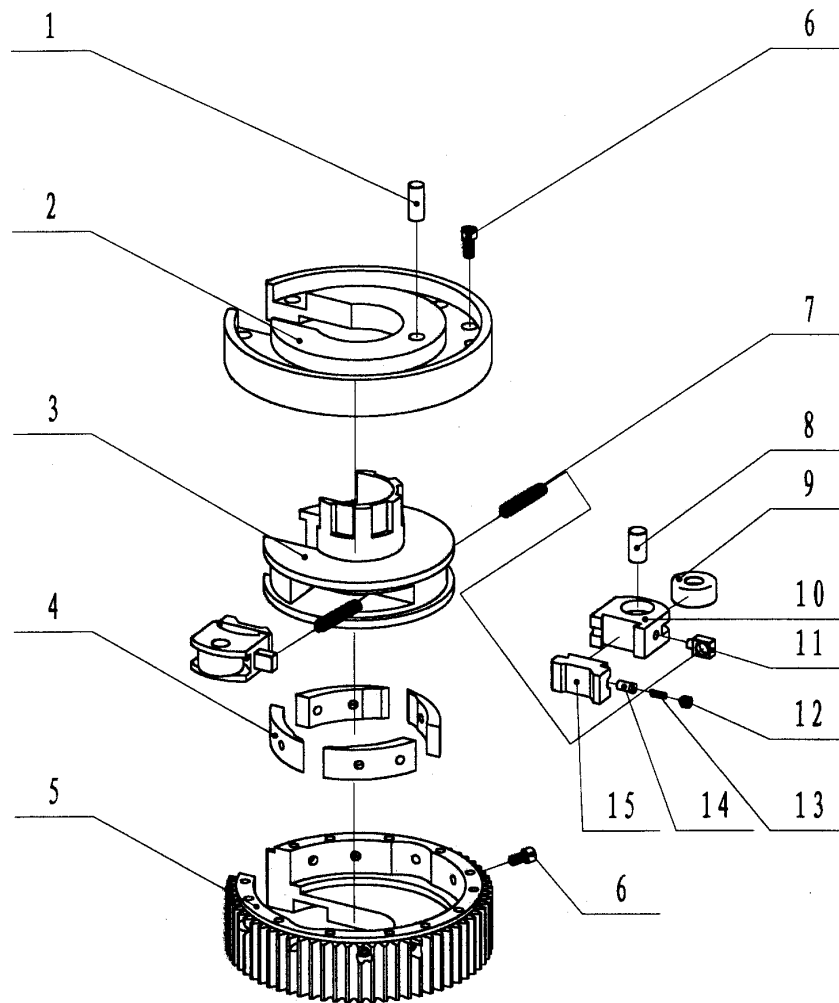

Fig 3
Figure 3 is the correspondence of Jaw set, glutting and sucker rod
- 8. 2. 1 Tong head assembly (Fig 3, Table 3)
9.2.1 Tong head assembly (Fig 3, Table 3)